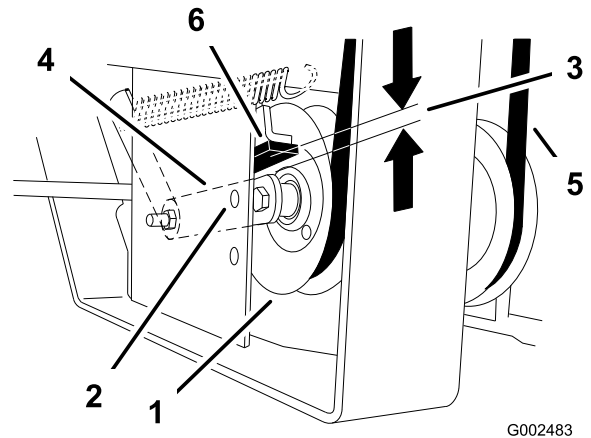

Figure 48
- Check the distance from the rubber stop and the arm of the spring loaded idler pulley when the idler plate is tightened. It needs to be 0 to 1/4 inch (0 to 6 mm) from the rubber stop (Figure 48).